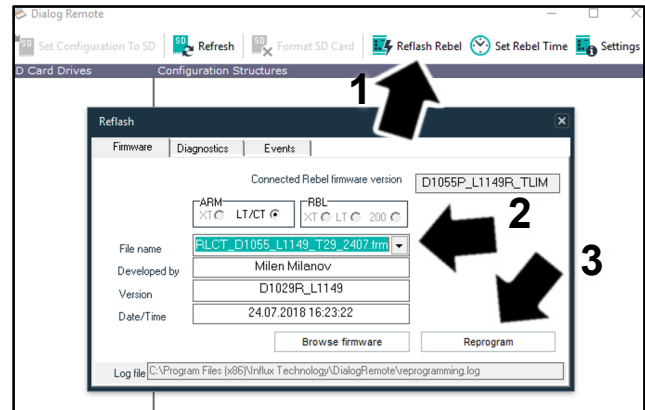

Figure 1
4. Open "Dialog Remote" (refer to Figure 1).